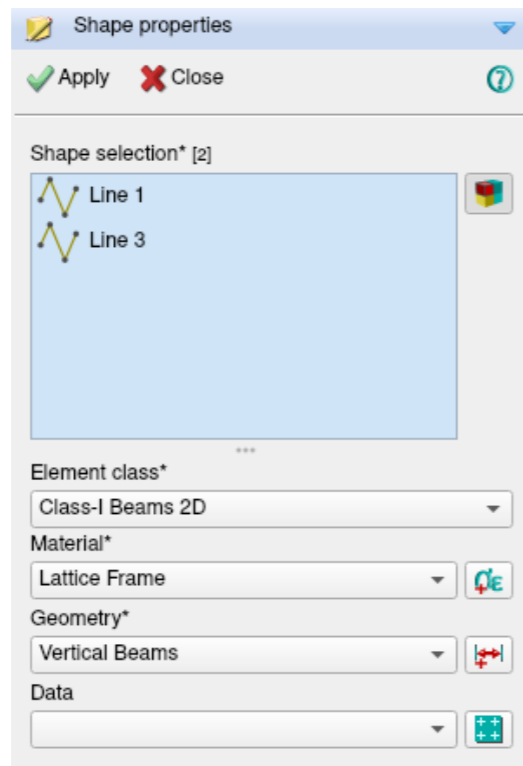

Figure 10: Property assignments vertical beams
**Main menu** → Geometry → Assign → Shape properties [Fig. 10]